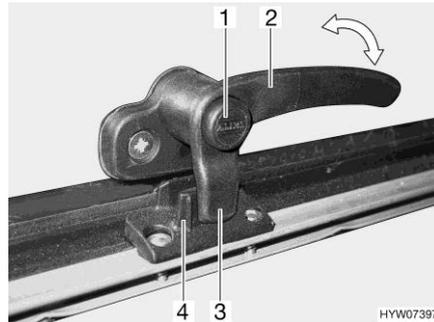
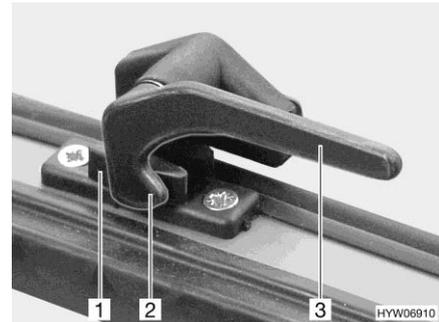

Fig. 109 Catch lever with safety knob in "closed" position
Fig. 110 Catch lever in "closed" position
- Press and hold the security button (Fig. 109,1), if present.
- Turn the catch lever (Fig. 109,2 or Fig. 110,3) a quarter turn towards the centre of the window.
- Turn the catch lever (Fig. 109,2 or Fig. 110,3) a quarter turn towards the window frame.
The locking catch (Fig. 109,3 or Fig. 110,2) on the catch lever is entirely on the inner side of the window catch (Fig. 109,4 or Fig. 110,1).
- "Firmly closed" (Fig. 109 and Fig. 110)